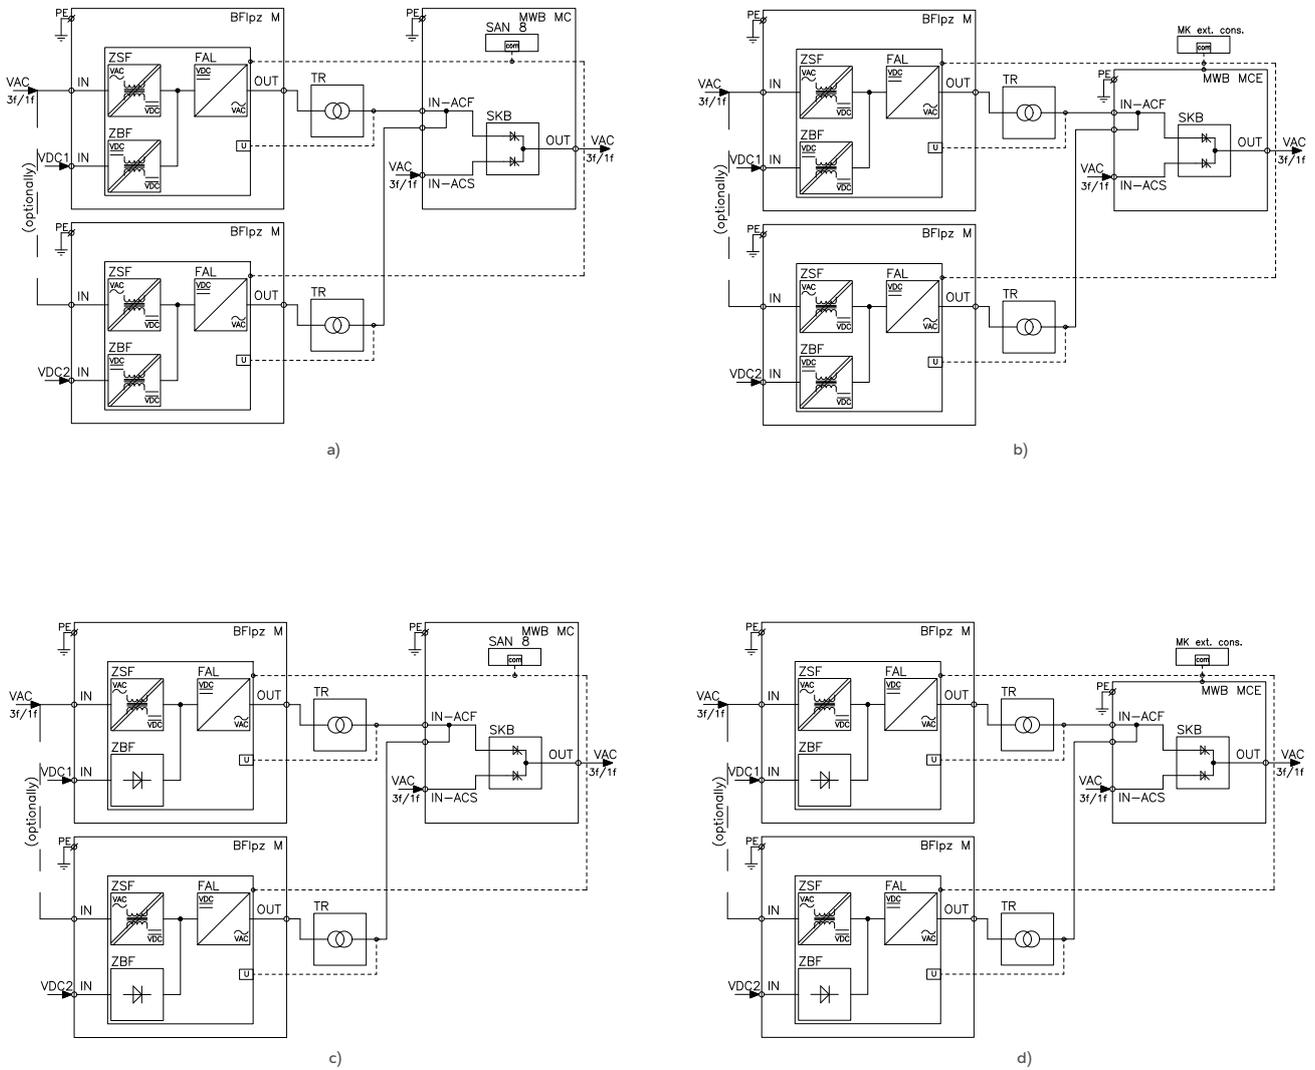
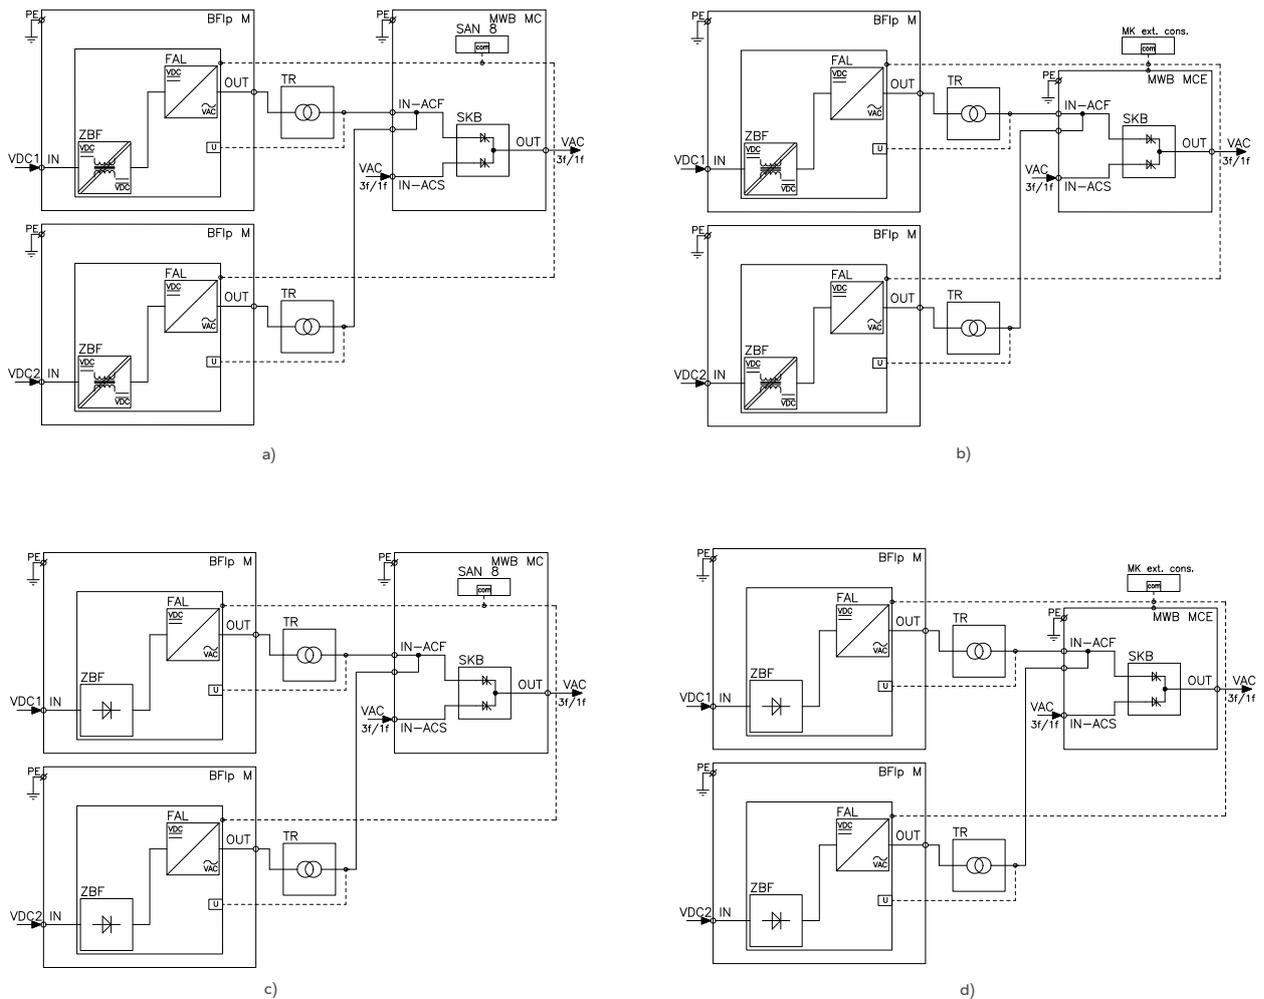

Fig. 55. Block diagram of the inverter modules for parallel operation with the BFlpz power supply unit and the MWB module. Possible configurations:
Fig. 56. Block diagram of the BFlp type inverter modules for parallel operation and the MWB module. Possible configurations:
The BFlpz inverter module is supplied by voltage of the basic AC network and DC battery voltage (Fig. 55), while the BFlp inverter module is supplied only by DC voltage (Fig. 56). The MWB module is supplied by the reserve AC network, and has two inputs to which output voltages (adapted to the client's requirements) of inverters are applied by transformers. The transformers provide isolation from supply voltages and constitute an ideal protection against penetration of the constant component to the loads in the case of a failure of the inverter. The MWB type inverters parallel operation integrating module is equipped with the SAN 8 system that controls the operating parameters of the inverters. The MWB module with a built-in console belong to the MC modules family (Fig. 56 a, c), while the modules with an external MK console are a part of the MCE modules family (Fig. 56 b, d). The BFlpz / BFlp modules without a controller belong to the M modules family.
1. High frequency DC/DC converter (Fig. 55 a, b, and Fig. 56 a, b);
2. Cut-off diode (Fig. 55 c, d, and Fig. 56 c, d).
The system including a diode on the battery power supply circuit instead of a battery converter (Fig. 55 c, d, and Fig. 56 c, d) is characterised by a greater reliability due to a lack of processing on the DC circuit.
SERIES TYPE: 1-PHASE INVERTER MODULES 1 ÷ 10kVA FOR PARALLEL OPERATION IN COOPERATION WITH 1-PHASE TRANSFORMER 230 V / 230 V 50 Hz – AS PER FIG. 55 A, B, AND FIG. 56 A, B
SERIES TYPE: 1-PHASE INVERTER MODULES 1 ÷ 10kVA FOR PARALLEL OPERATION IN COOPERATION WITH 1-PHASE TRANSFORMER 115 V / 230 V 50 Hz – AS PER FIG. 55 C, D, AND FIG. 56 C, D
SERIES TYPE: 3-PHASE INVERTER MODULES 1 ÷ 10kVA FOR PARALLEL OPERATION IN COOPERATION WITH 3-PHASE TRANSFORMER 3×240 V / 3×400 V 50 Hz – AS PER FIG. 55 A, B, AND FIG. 56 A, B
SERIES TYPE: 3-PHASE INVERTER MODULES 1 ÷ 10kVA FOR PARALLEL OPERATION IN COOPERATION WITH 3-PHASE TRANSFORMER 3×110 V / 3×400 V 50 Hz – AS PER FIG. 55 C, D, AND FIG. 56 C, D